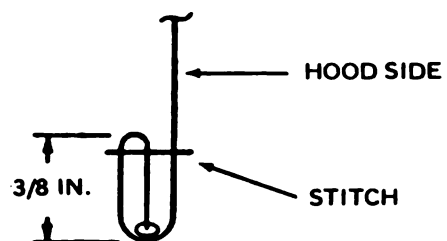

Figure 4-4. Raw Edge Enclosed
- d. Turn under raw edge  $\frac{3}{8}$  inch and stitch on folded edge with raw edge enclosed in stitching. (See figure 4-4, side view.)